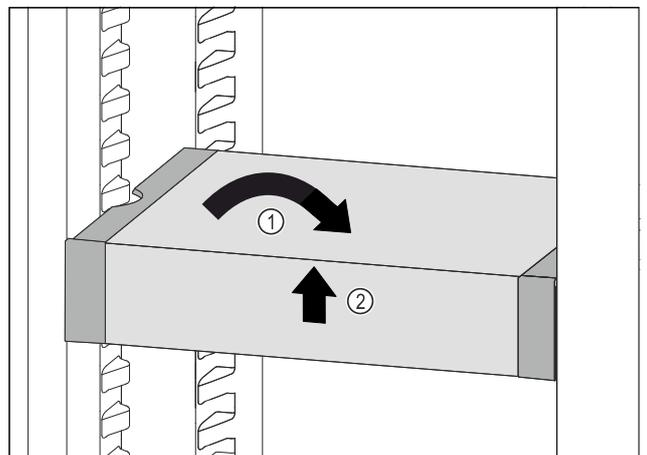

Fig. 90
- ▶ Set VarioSafe straight. Fig. 90 (1)
- ▶ Lift VarioSafe at the front. *Fig. 90 (2)*